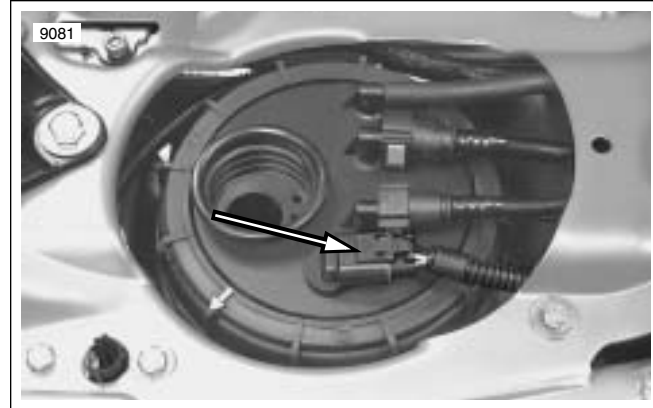
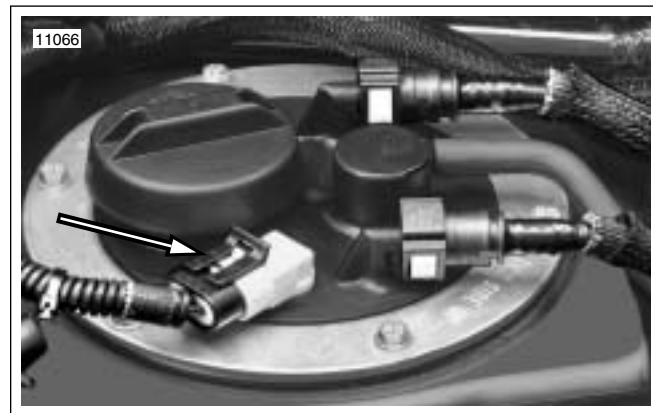

Figure 4-46. Fuel Pump Connector [141] (VRSCA/VRSCD)
Figure 4-47. Fuel Pump Connector [141] (VRSCR)
1. See [Figure 4-46. Fuel Pump Connector \[141\] \(VRSCA/VRSCD\)](#) or [Figure 4-47. Fuel Pump Connector \[141\]\(VRSCR\)](#). Disconnect fuel pump connector [141] from top of fuel tank.